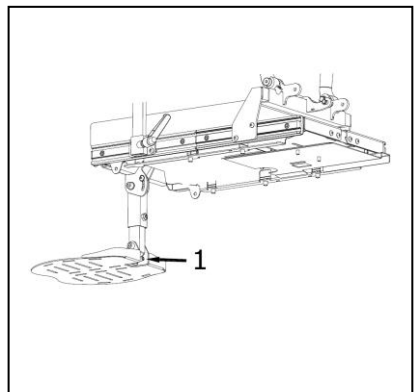

Figure 4.10
**Foot Plate Angle setting (fig 4.10).**
1. Loosen the bolt and nut (1).